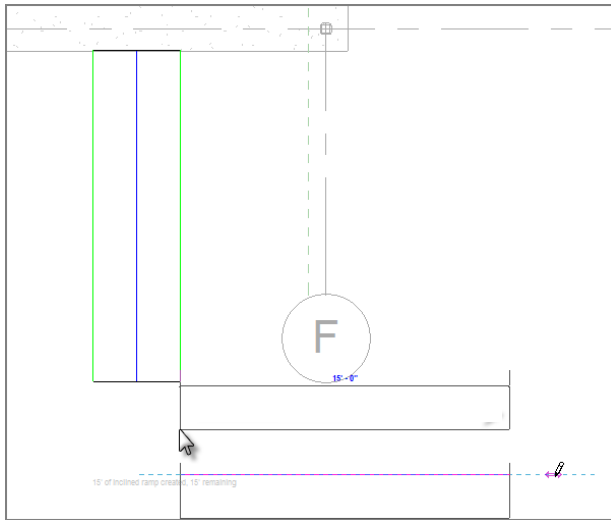

FIGURE 10.84: The second leg of the ramp
19. Pick a point about 6'-0" (1800mm) below the end of the ramp, in alignment with the right boundary, as shown in Figure 10.84. After you pick the second point, the view should read "30' (10000mm) of inclined ramp created, 0 remaining."
20. Move your cursor to the right until the ramp stops (see Figure 10.84).